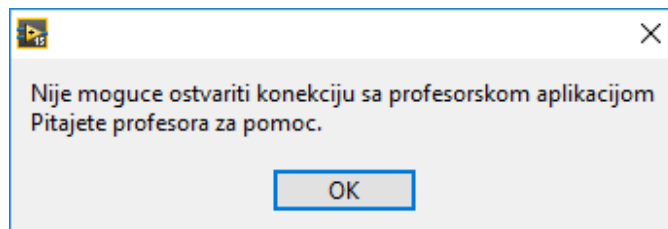

Figure 3.1
- 1) If communication with the professorial application has not been made (Figure 3.1)